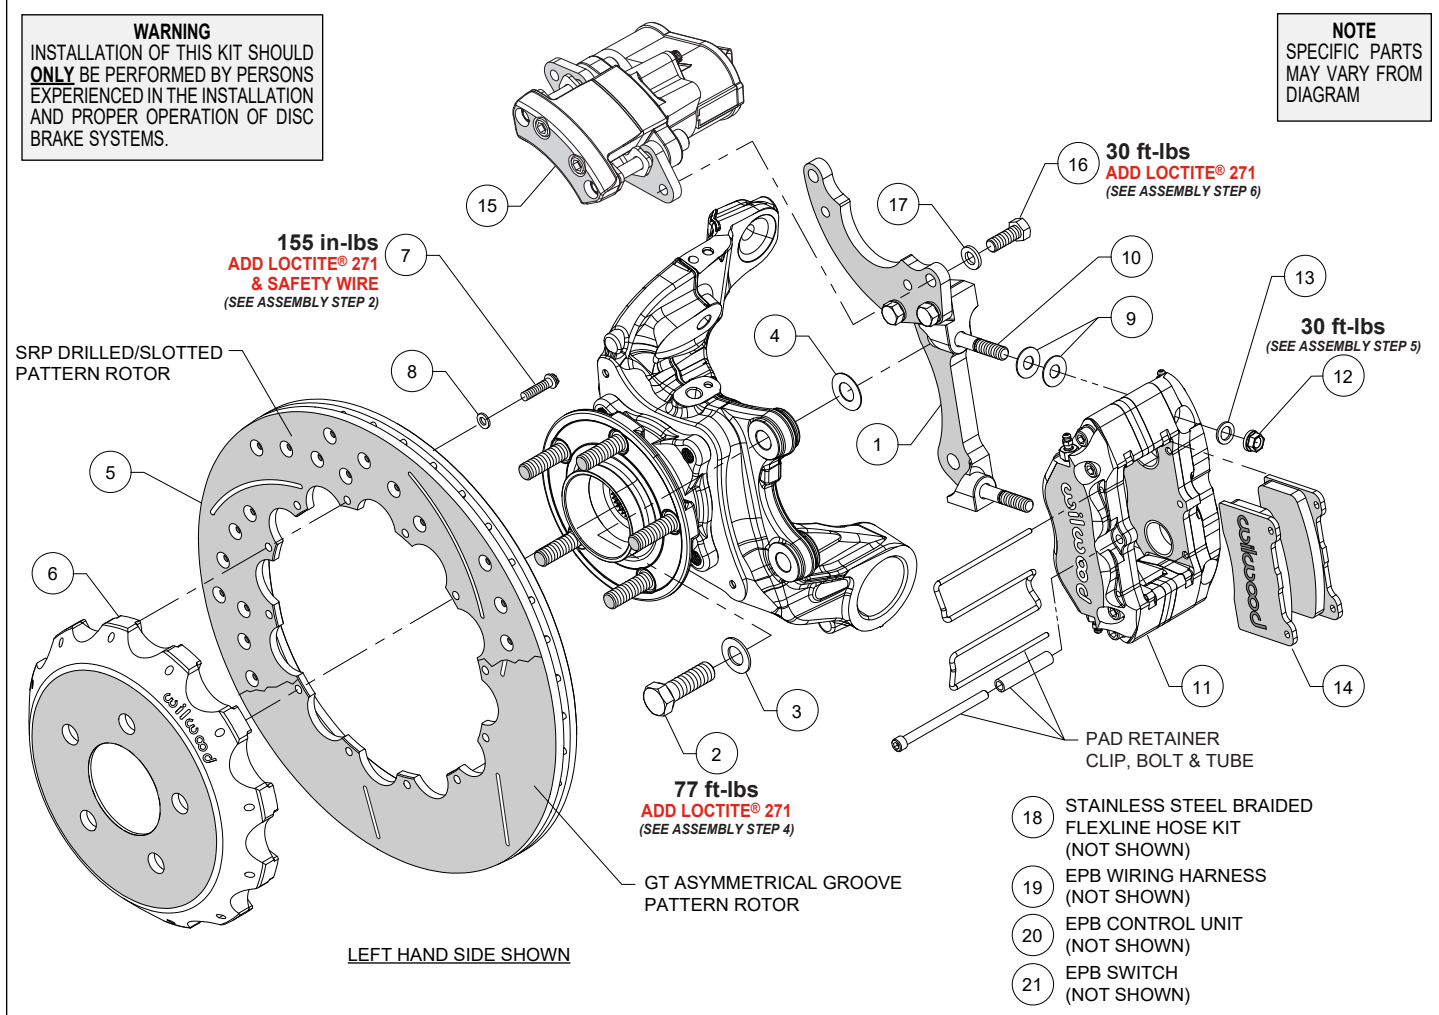
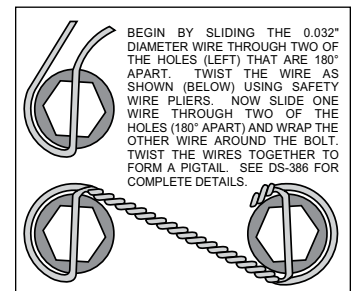

Figure 1. Typical Installation Configuration
Figure 3. Safety Wire Diagram
NOTE: Numbers in parenthesis refer to the parts list and Figure 1 on the preceding pages.
STEP 1 The caliper mount bracket (1) should initially be installed with clean, dry threads on the mounting bolts. Orient the bracket as shown in Figure 1, and Photo 1, and install using bolts (2) and washers (3). Initially place one .029" thick shim (4) on each bolt between the bracket and upright, Figure 1. Temporarily tighten the mounting bolts. **NOTE:** The bracket must fit squarely against the mount bosses on the upright. Inspect for interference from casting irregularities, machining ridges, burrs, etc. Later, after the caliper alignment has been checked, the mount bolts will be secured using red *Loctite*® 271.
STEP 2 Orient the rotor (5) and the hat (6) as shown in Figure 1 and Photo 2. Attach rotor to hat using bolts (7) and washers (8). Apply red *Loctite*® 271 to the bolt threads and torque to value shown in Figure 1 using a criss-cross pattern. For an added measure of security, the bolts may be safety wired using standard 0.032 inch diameter stainless steel safety wire as shown in Figure 3. Please refer to Wilwood's data sheet DS-386 (available at www.wilwood.com/Pdf/DataSheets/ds386.pdf) for complete safety wire installation instructions.
STEP 4 Initially place two .035" thick shims (9) on each stud (10) as shown in Figure 1 and Photo 4. Mount the caliper (11) onto the bracket (1) using lock nuts (12) and washers (13), Figure 1. Temporarily tighten the lock nuts and view the rotor through the top opening of the caliper. The rotor should be centered in the caliper, Photo 5. If not, adjust by adding or subtracting shims (4) between the bracket and the mounting bosses. Always use the same amount of shims on each of the two mounting bolts. Once the caliper alignment is correct, remove the bracket mounting bolts (2) one at a time, apply red *Loctite*® 271 to the threads, and torque to value shown in Figure 1.
STEP 5 Insert the brake pads (14) into the caliper (11) with the friction material facing the rotor (5), as shown in Figure 1 and Photo 6. Check that the top of the brake pad is flush with the outside diameter of the rotor, Photo 7. If not, adjust by adding or
subtracting shims (9) between the caliper and the bracket. After the caliper pad height is set, torque the caliper lock nuts (12) to value shown in Figure 1. Secure the pads in place using the pad clip retainer as well as the pad retainer tube and bolt, Photo 8. The bolt should be snug without play in the tube. Be cautious not to over tighten.
STEP 6 Mount the EPB caliper (15) onto bracket (1) using bolts (16) and washers (17), as shown in Figure 1 and Photo 9. Apply red *Loctite*® 271 to bolt threads, and torque to value shown in Figure 1.
STEP 8 Attach supplied brake line to caliper. **NOTE:** OEM rubber brake hoses generally cannot be adapted to Wilwood calipers. Install Wilwood's stainless steel braided flexline hose kit (18), p/n 220-12092 included with this kit. The caliper inlet fitting is a 1/8-27 NPT. Use the included steel adapter fitting at the caliper (use PTFE tape on the pipe threads of adapter fitting for proper sealing to caliper). **NOTE:** Be sure to attach the bracket for the fitting to the Factory Five Roadster chassis in a location which will allow full suspension travel and will not cause the line to have tension or be pinched, Photo 10. Ensure hoses are routed to prevent contact with moving suspension, brake or wheel components.